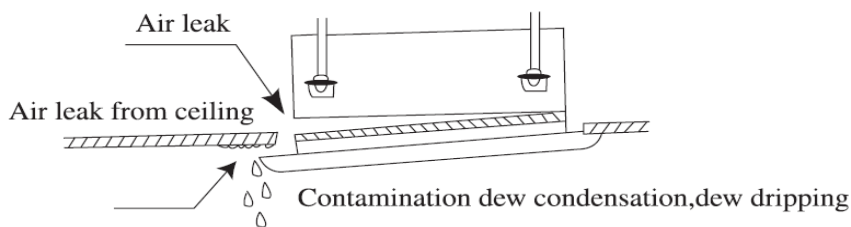

Fig.23
1. Improper screwing of the screws may cause the troubles shown in Fig.23